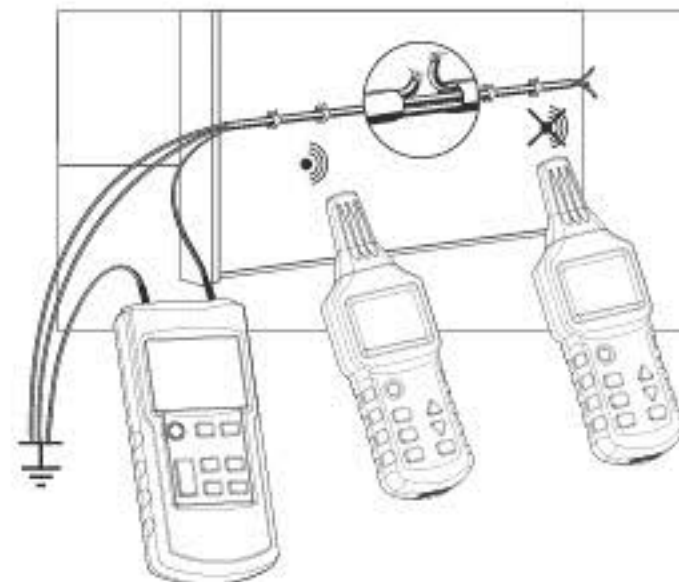

Fig. 3-1-3
- All lines which are not required must be connected to the auxiliary ground in accordance with Fig. 3-1-3.
- Connect the transmitter to one lead and to an auxiliary ground according to Fig. 3-1-3.